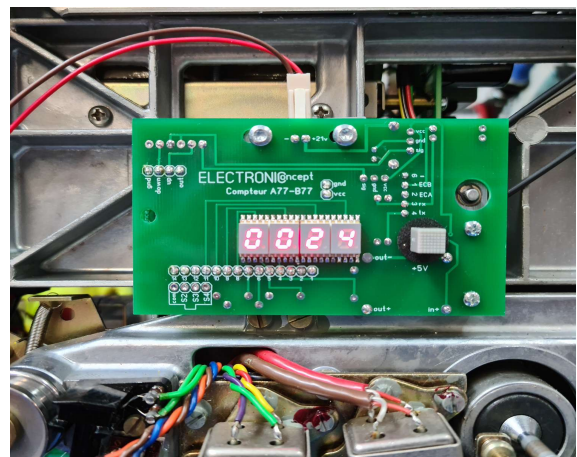

Figure 4
- Install the digital counter, with the screws and the cardboard washers (washers between the screw head and the circuit.) Replace the belt on the pulley.(Figure 4).